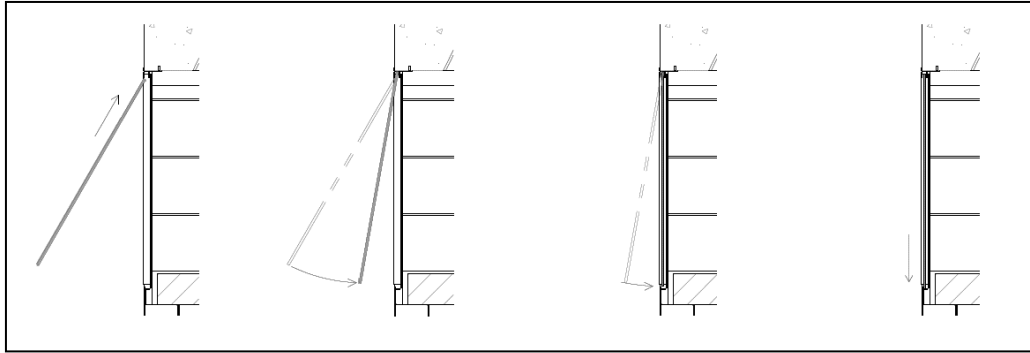

FIGURE 57
- 3) With the panel in an upright orientation, angle the top of the glass towards fireplace and insert the top edge of the glass panel into the channel of the Top Glass Bracket. In the same motion, raise the glass panel's top edge to fully seat in the Top Glass Bracket while swinging the bottom edge of the glass panel in towards the fireplace. The bottom edge of the glass should align to the rear ledge of the Air Collector Box's glass bracket, and the glass should be in a vertical orientation. Gently allow the glass panel to seat into the bottom Air Collector Box glass bracket (**Figure 57**).
NOTE: If this is a multi-panel installation - models: 82L60ST-GLK, 82L72ST-GLK, 82L96ST-GLK, 82L120ST-GLK, insert the glass in the center of the fireplace and gently slide the glass panel to the fireplace's left sidewall. Install the remaining glass panels in the same manner piecewise from left to right. (**Figure 57**).